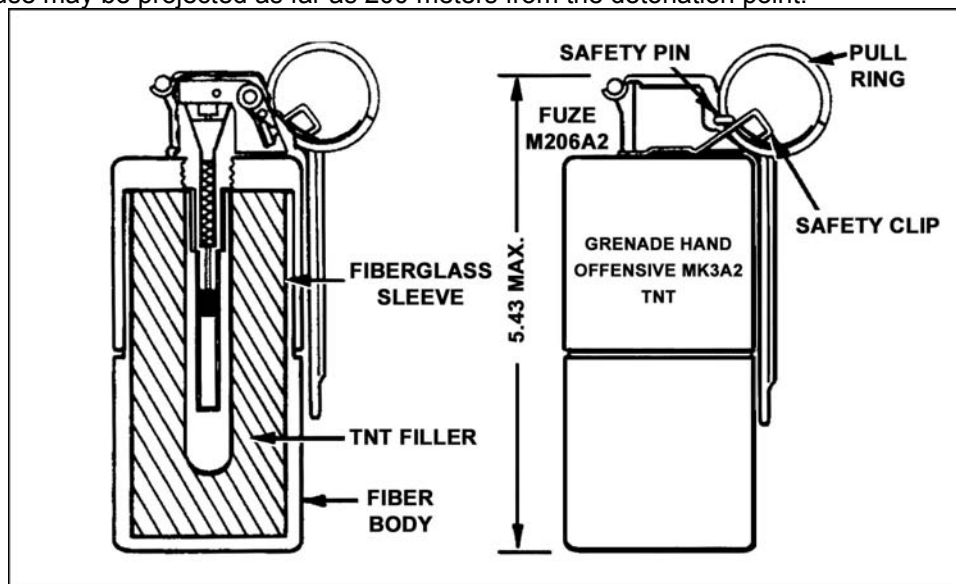

Figure 6. MK3A2 offensive grenade.
- b. MK3A2 Offensive Grenade (Figure 6). This grenade is commonly referred to as the concussion grenade and is designed to produce casualties during combat while minimizing danger to friendly personnel. The grenade is also used for concussion effects in enclosed areas, for blasting, or for demolition tasks. The shock waves (overpressure) produced by this grenade when used in enclosed areas are greater than those produced by the fragmentation grenade. It is, therefore, very effective against enemy soldiers located in bunkers, buildings, and fortified areas. The effective casualty radius in open areas is 2 meters. Secondary missiles and bits of fuse may be projected as far as 200 meters from the detonation point.